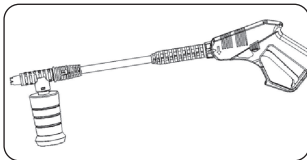

FIGURE 8.11
4. Connect the container nozzle to the trigger gun + extension wand (Figure 8.11 and 8.12).